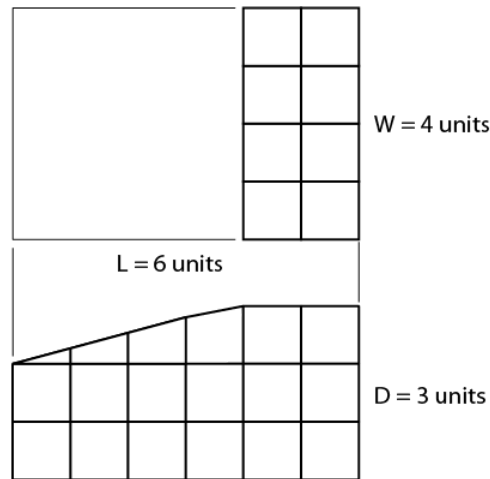
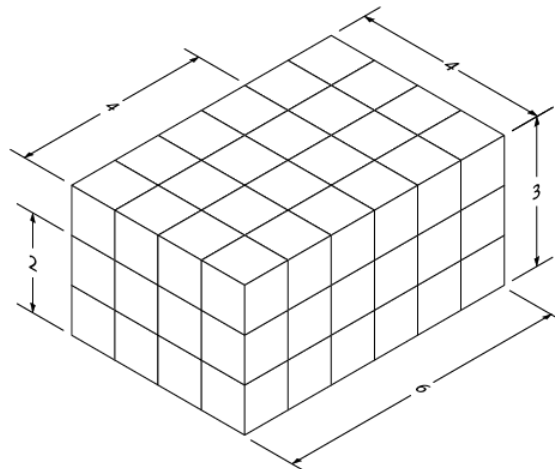

Figure 9.2.1: Rectangle with face machined at an angle
Figure 9.2.2: Rectangle with units marked along L and D
Figure 9.2.1 shows an object that is basically rectangular but has one face machined at an angle. You can easily construct an isometric sketch of the basic rectangular block. To show the machined face, it is necessary to plot the appropriate points of intersection and join those points to produce the correct angle.
Sketch a light outline of the basic rectangular block using the size measurements given in Figure 9.2.1. Mark the number of units indicated along the length (L) and the depth (D), as shown in Figure 9.2.2.